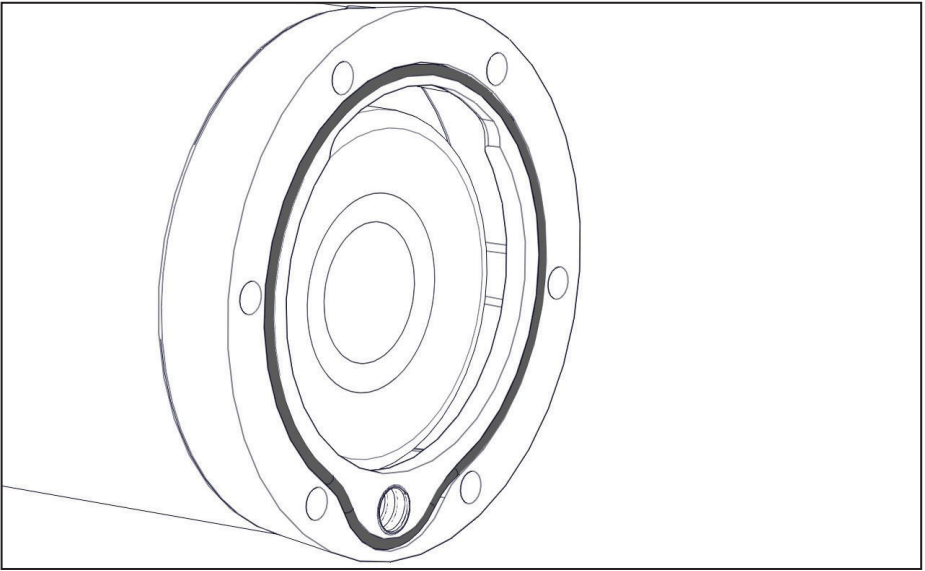

Figure 37 — Blowdown cap O-ring
- Install the blowdown cap Viton O-ring in the AOST (Figure 37).